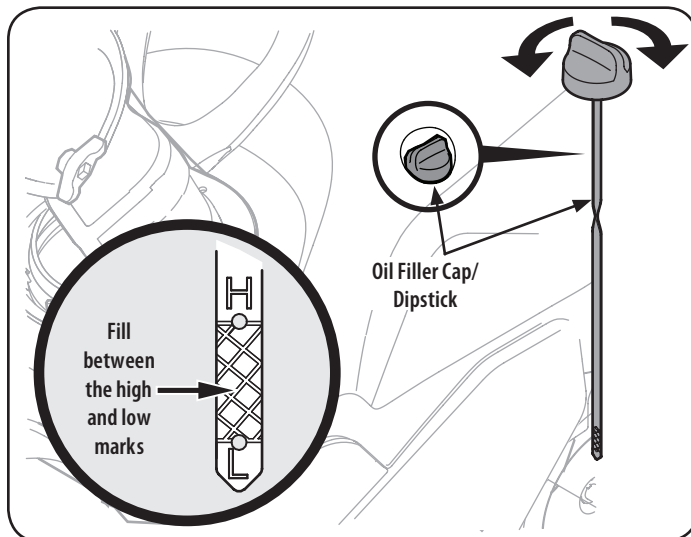
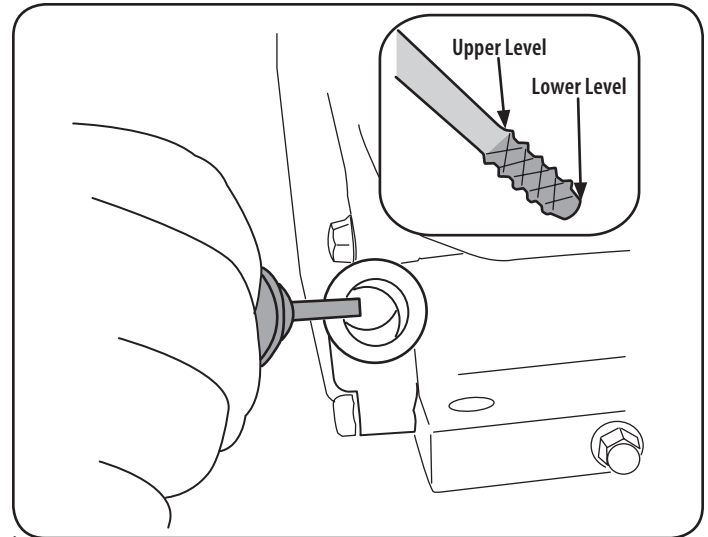

Figure 7
Figure 8
2. On some models the oil filler cap/dipstick can be accessed on the left side of the shroud. See Figure 7. On other models the oil filler cap/dipstick can be accessed at the rear of the snow thrower. See Figure 8.